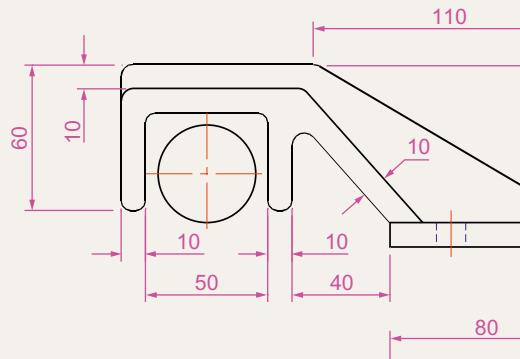

Fig. 8.21 Exercise 2
- Construct the orthographic projection Fig. 8.21 to the given dimensions with the front view as the sectional view A-A.